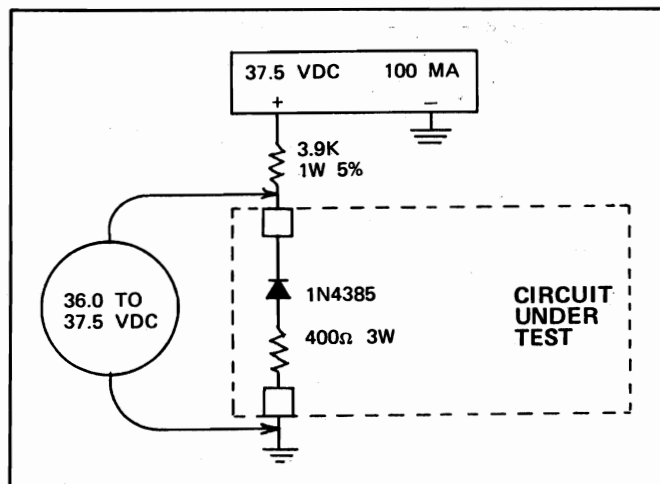

FIG. 13-61. TEST CIRCUIT NO.1 FD717 CARD. E-19648
1. Connect test circuit No. 1, shown in Fig. 13-61, to the FD717 card.
3. Measure 36.0 to 37.5 vdc between the points indicated on the Fig. 13-61 diagram.